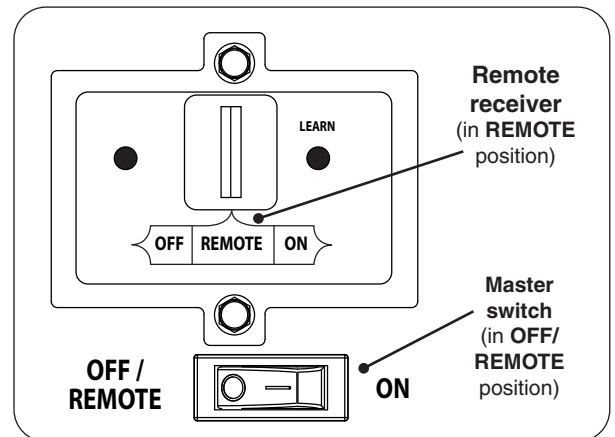

Fig. 33-1 Control panel detail
1. Ensure the master switch is in the **OFF/REMOTE** position (see Fig. 33-1).
2. Locate the 3-position switch on the remote receiver (see Fig. 33-1), and slide the switch to the **REMOTE** position.